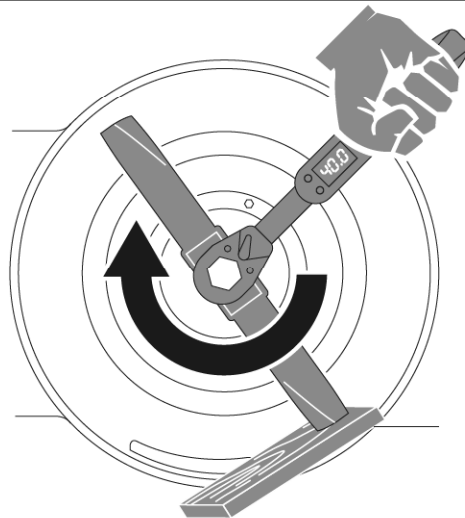

Figure 14
5. Install the new blade. Use a block of wood between the blade and lawn mower housing and tighten the blade bolt, turning clockwise. The recommended tightening torque is 33.3-40 ft.-lb. (45-55 Nm). (See **Figure 14**)